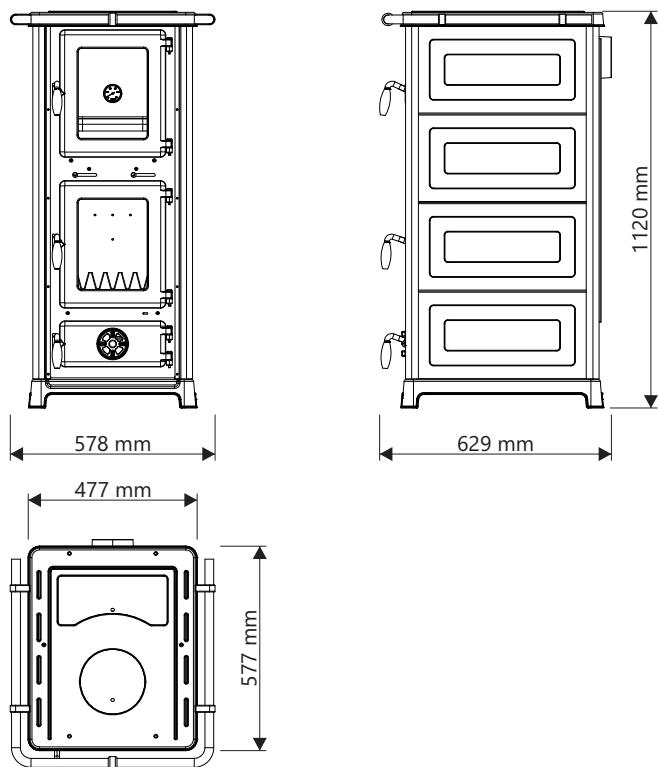

**Figure 1**
- Figure 1 shows the stove with components essential for use.
### Stove components (figure 1)
- leave the ashtray door open until the flame is stable, then close them and regulate the burning strength with the draft regulator (Figure 1, position 4),
- when adding fuel, open the firebox door (Figure 1, position 1) only a few degrees, wait 4-5 seconds, then slowly open. Do not open the door abruptly, because when there is a strong flame in the firebox, it can spill towards the room.
By regulating the draft in the stove, you regulate the temperature, power and speed of fuel combustion, and this is done by turning the primary air regulator on the ashtray door (Figure 1, position 2).